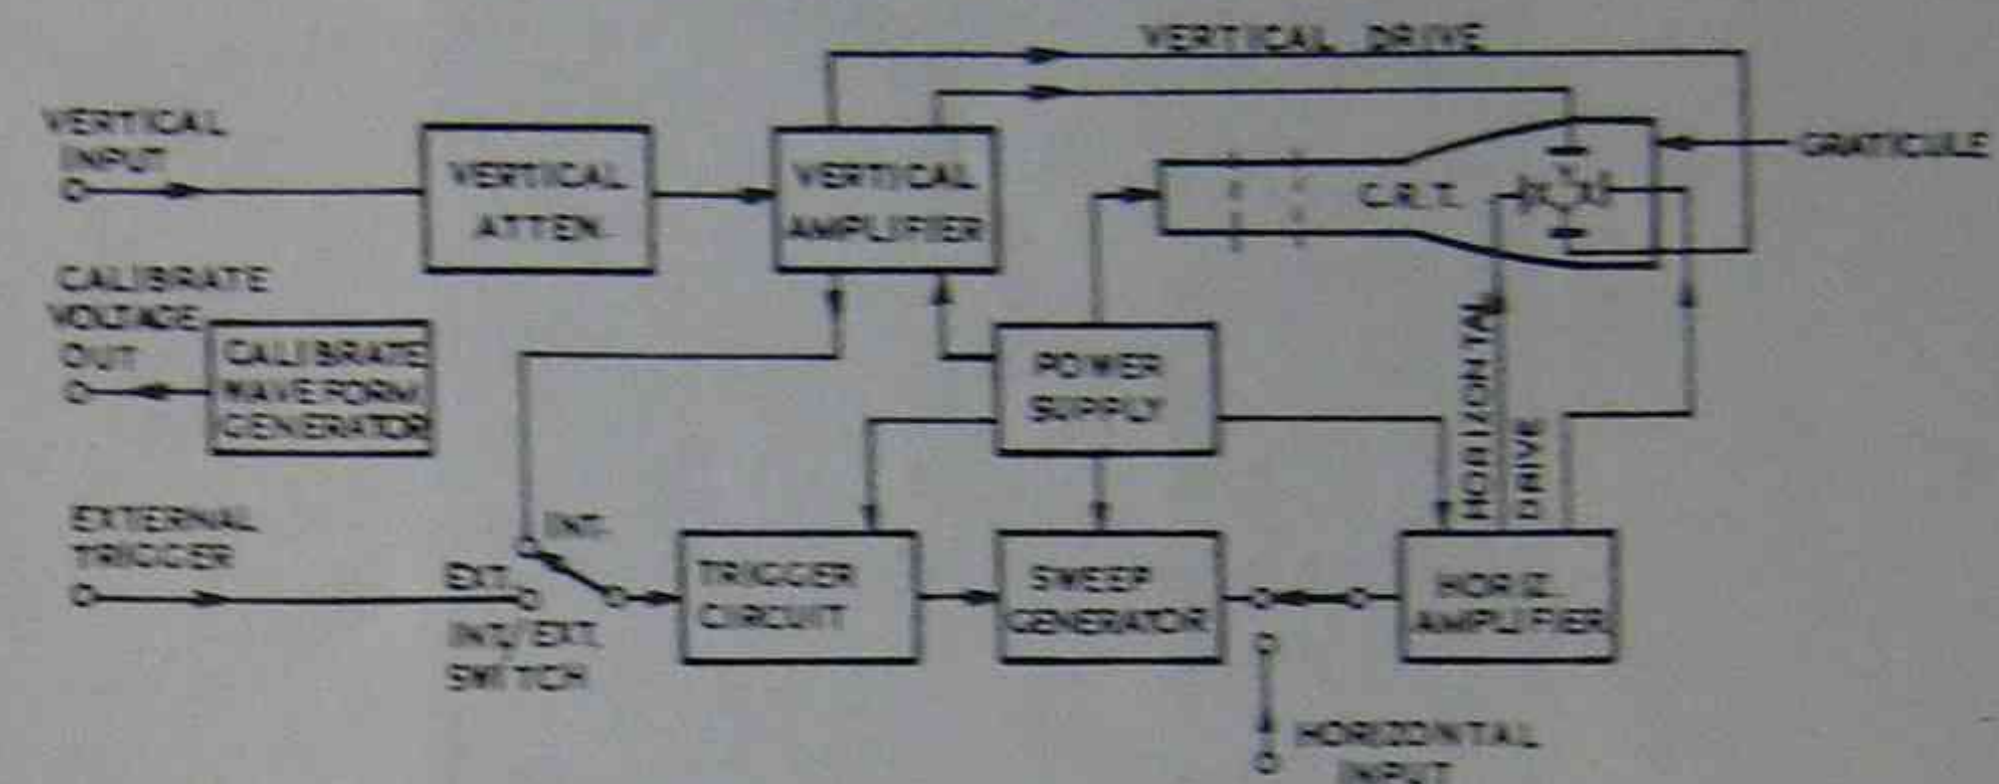

FIG. 23. BLOCK DIAGRAM OF A BASIC OSCILLOSCOPE.
7.1 BLOCK SCHEMATIC CIRCUIT. Fig. 23 shows how the various oscilloscope circuits are interconnected to provide the features considered so far in this paper.
The functions of the component blocks shown in Fig. 23 are as follows: